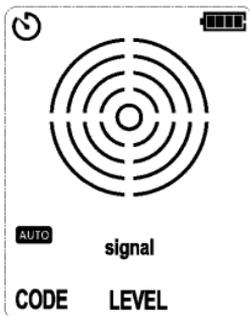

Figure 6.2.1a – Auto Mode
2. The receiver is in the powered-on state by default. Short press the AUTO/MANUAL button to switch to MANUAL scanning mode (reception level mode is 6), as shown in **Figures 6.2.1a** and **6.2.1b**.